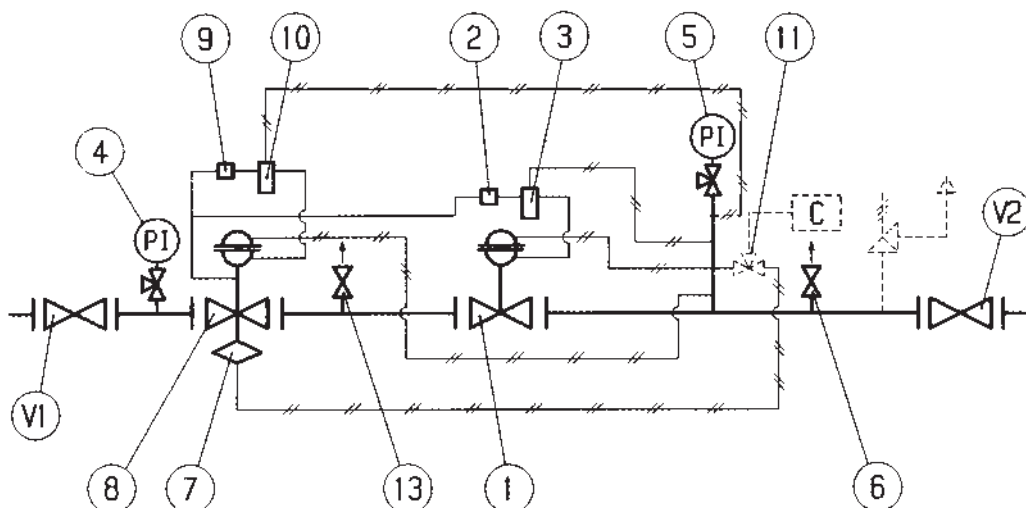

Fig. 16
5.5 COMMISSIONING THE REGULATOR PLUS DIXI IN-LINE MONITOR WITH INCORPORATED SLAM-SHUT VALVE (FIG. 16)